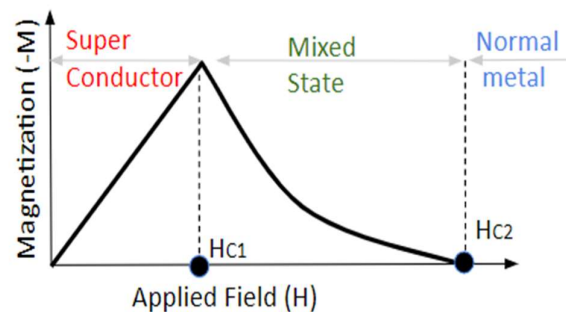

Figure 7d: Magnetization Vs Field (Type-II)
- As shown in Figure 7d the magnetization of Type-II superconductor increases with the increase in applied magnetic field till the lower critical field H_{C1} .